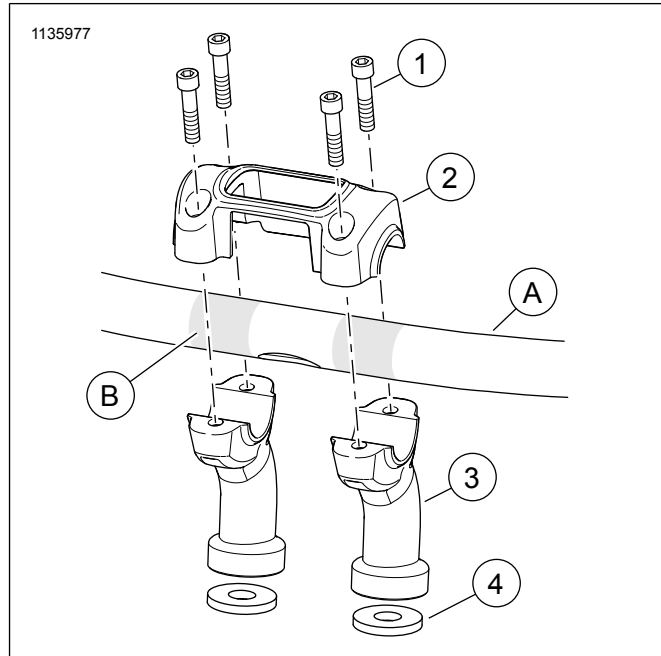

Figure 2. Breakout Riser Kit
See Figure 2 and Table 1.
*Leave handlebar risers (4) loose.*
3. See Figure 2. Install the handlebar risers (3). See service manual.
4. Center handlebar (A) between risers using knurled areas (B) of handlebar as a guide.
5. Place handlebar clamp (2) in position.
6. Install screws (1). DO NOT tighten.